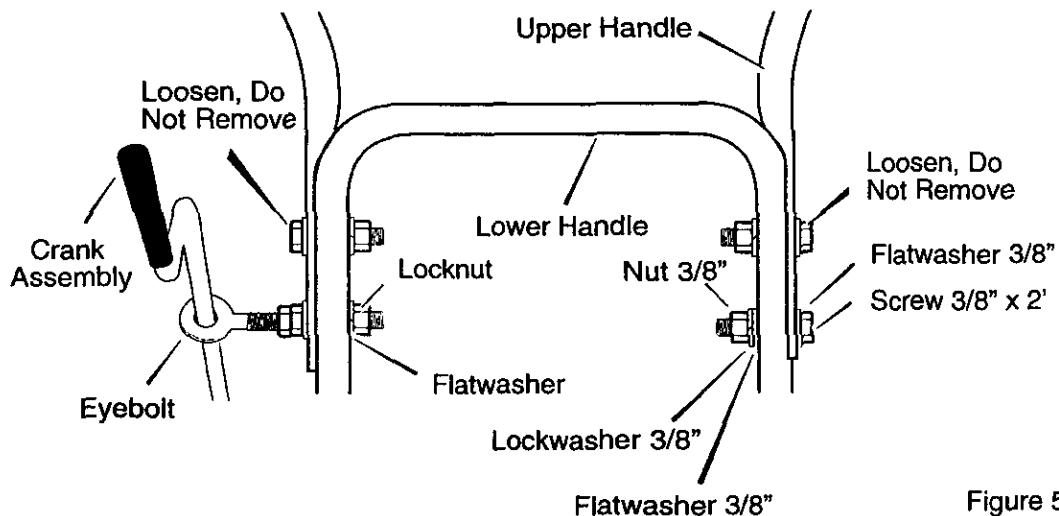

Figure 5
1. Loosen, but do not remove, the **fasteners** in the upper holes of the lower handle. See Figure 5.
10. Tighten the locknut on the **eye bolt**. See Figure 5. Make sure **eye bolt** is properly aligned and the **crank** can freely rotate.